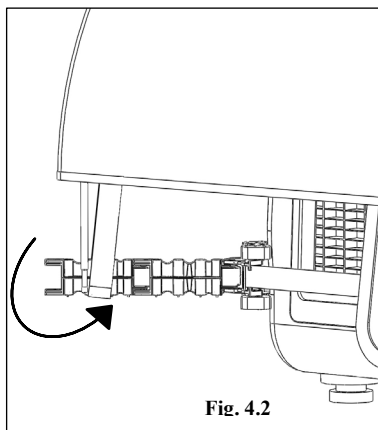

Fig. 4.2
- c. Slide one corner elastic under the end of the Extender Arm and set it behind the Frame Rods. (closer to the generator than the Frame Rods) (Fig. 4.2)